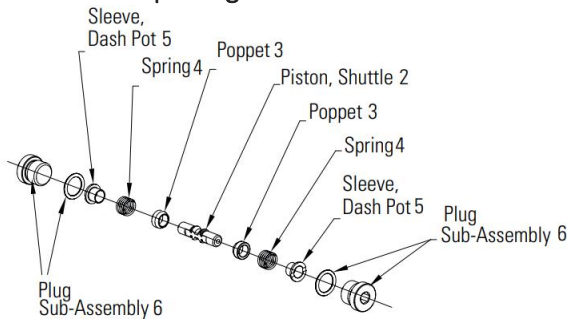

Figure 37 For Close Loop Design
2. Add sleeve dash pot (Qty 2), poppet (Qty 2) and piston shuttle (Qty1) as shown in Figure 37